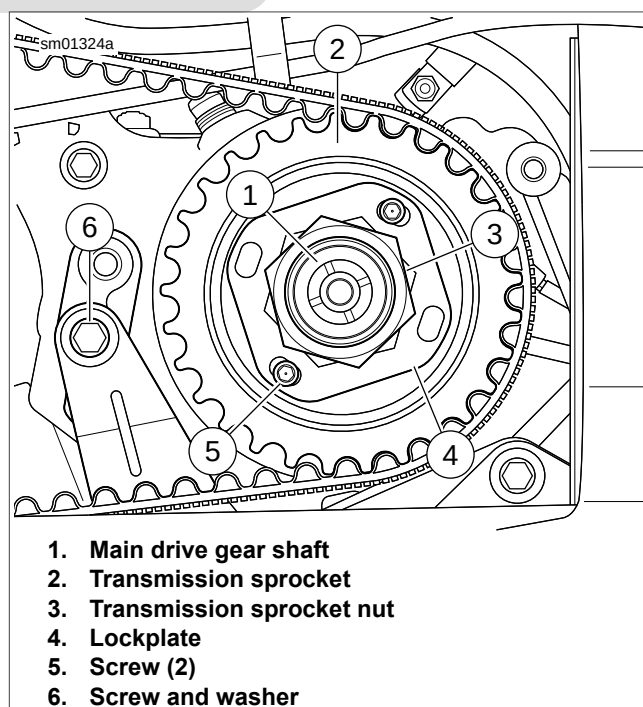

Figure 5-103. Transmission Sprocket Assembly: All Models
5. See Figure 5-103. Remove screw and washer (6) from exhaust interconnect bracket.
- See Figure 5-103. Remove two screws (5) and sprocket lockplate (4).
- See Figure 5-103. Install transmission sprocket (2) onto main drive gear shaft (1).
- d. See Figure 5-103. Install lockplate (4) over nut (3) so that two of lockplate's four drilled holes (diagonally opposite) align with sprocket's (2) two tapped holes.
1. See Figure 5-103. Install screw and washer (6) to secure muffler interconnect bracket to engine crankcase. Tighten to 30-33 ft-lbs (40.7-44.8 Nm).